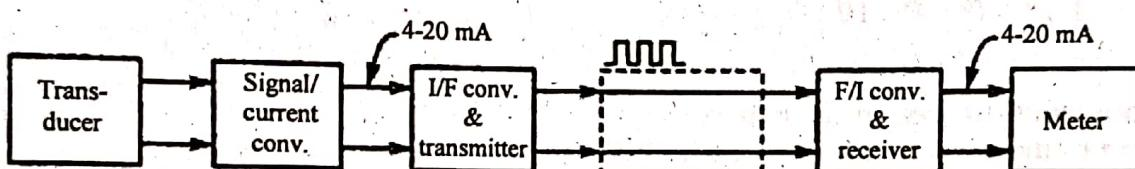

Fig: 1 Block diagram of a teletype channel based frequency telemetry system
- a) A schematic of such a telemetry system is shown in Fig. 1.